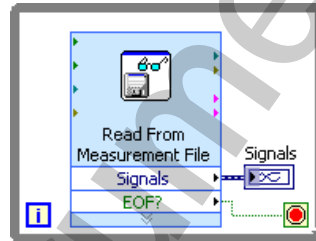

Figure 3-14. Read Data File VI Block Diagram
3. Create the block diagram to build a VI that reads the LabVIEW Measurement File, as shown in Figure 3-14, using the following items: